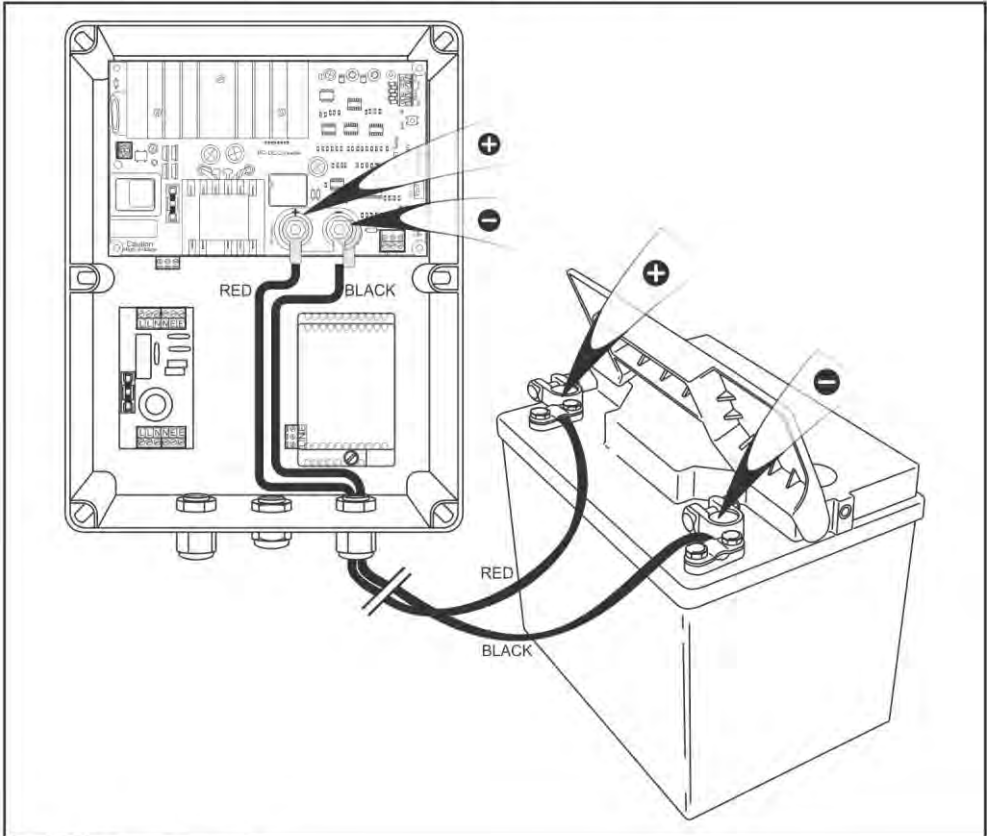

Fig. 7 12V Battery Connections
5. As shown in Fig 7, bolt the battery leads onto the DC Converter making sure that the RED lead is connected to the POS + terminal and likewise the BLACK lead to the NEG - terminal.